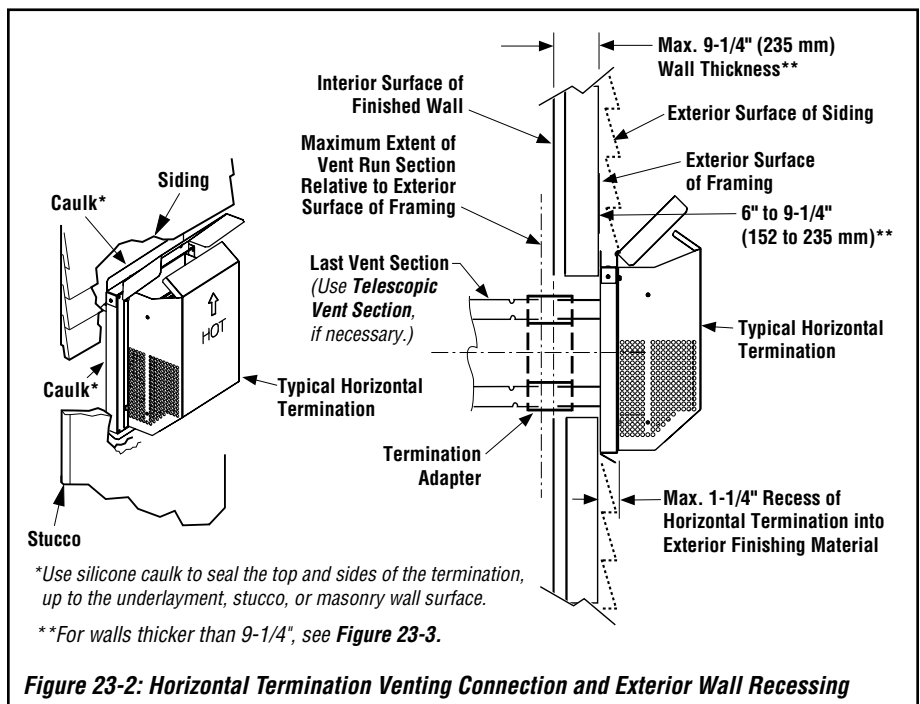

Figure 23-2: Horizontal Termination Venting Connection and Exterior Wall Recessing
Note: For walls thicker than those shown in **Figure 23-2**, see **Figure 23-3**, which lists additional venting components needed (in addition to the termination and adaptor) for a particular range of wall thicknesses.
See **Figure 23-2**. Attach the **termination adaptor** (provided with the termination) to the vent section (or telescoping vent section or elbow) in the same manner as the other vent components (see "Attaching Secure Vent Components" on **Page 13**).
- Orient the termination housing with the arrow pointing UP (see **Figure 23-2**).
NOTE: The horizontal termination must not be recessed into the exterior wall or siding by more than 1-1/4" (32 mm), as shown in **Figure 23-2**.